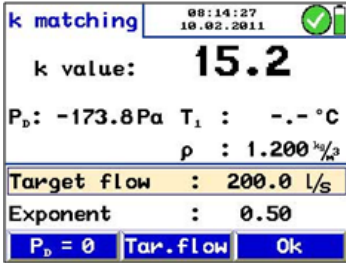

Fig. 24: Menu K-Value Matching
- Select the "Tar. flow"-key from the menu bar (see Fig. 24).
Press PD = 0 (menu bar, see Fig. 24 ) to zero the pressure sensor.